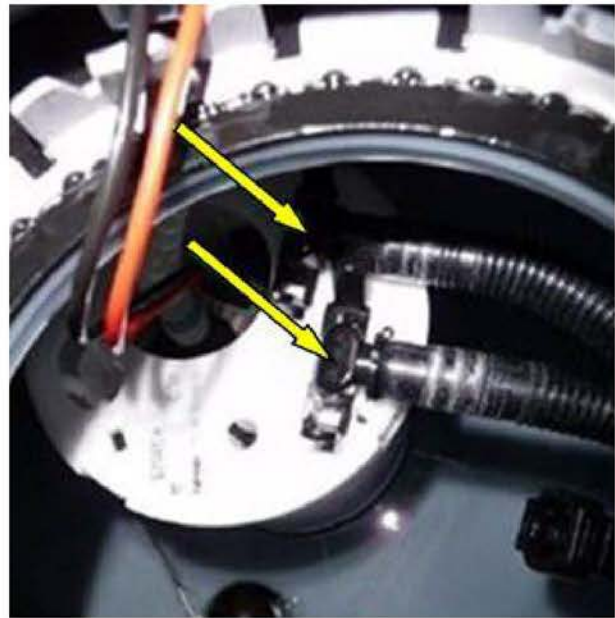

Figure 4. Black corrugated lines leading from the suction jets to be moved.
5. Disconnect the two black corrugated lines leading from the suction jets and move them to the left in order to create space for working on other fuel lines (Figure 4).